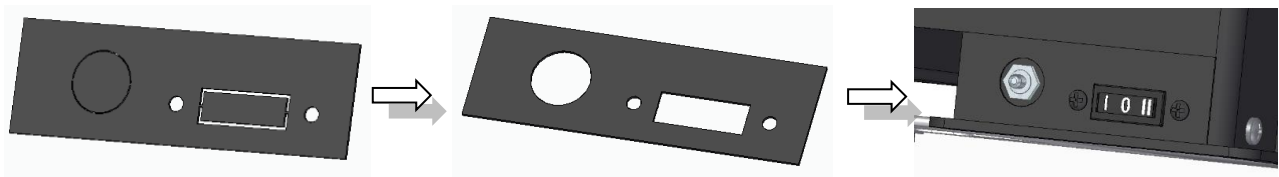
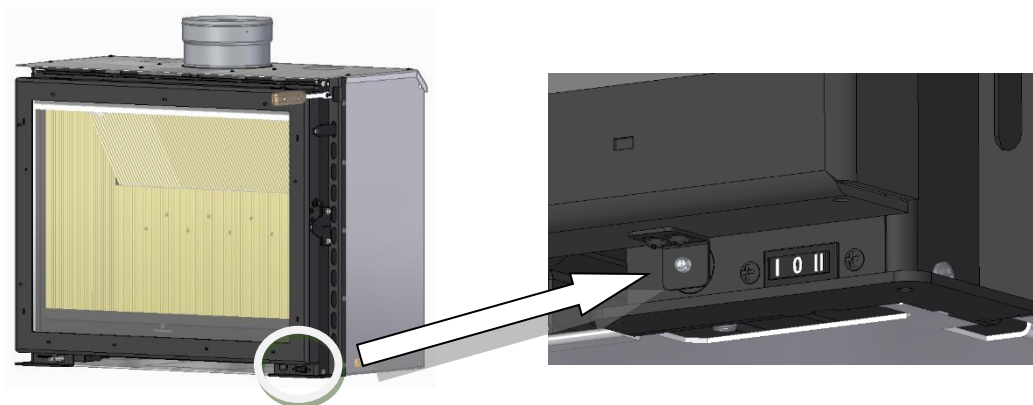

Figure 50– Micro-switch attachment and On-Off button
Figure 51 – Door handle adjustment, micro-switch actuation
c. Finally, you must put the micro-switch and the On-Off button in place, as shown in Figure 50.
d. After placing the components in the equipment, Figure 50, you must adjust the switch that is under the door, so that the door after closing the switch activates the micro-switch, see Figure 51.